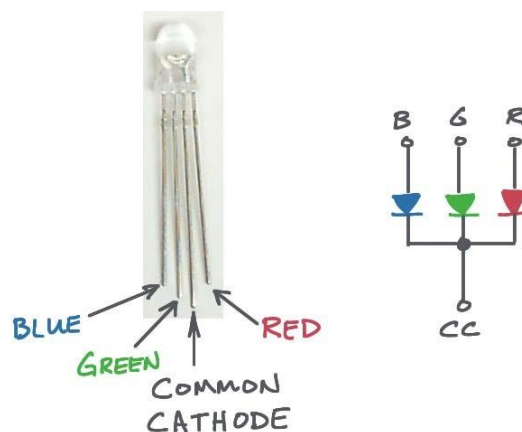

Figure 2-3, RGB LED pins and schematic diagram.
- Blink the green and blue LEDs of the RGB LED using the same LabVIEW code as the railroad crossing signal; refer to Figure 2.3 on the following page for the RGB LED pinout diagram. Use the current-sourcing interface circuit.